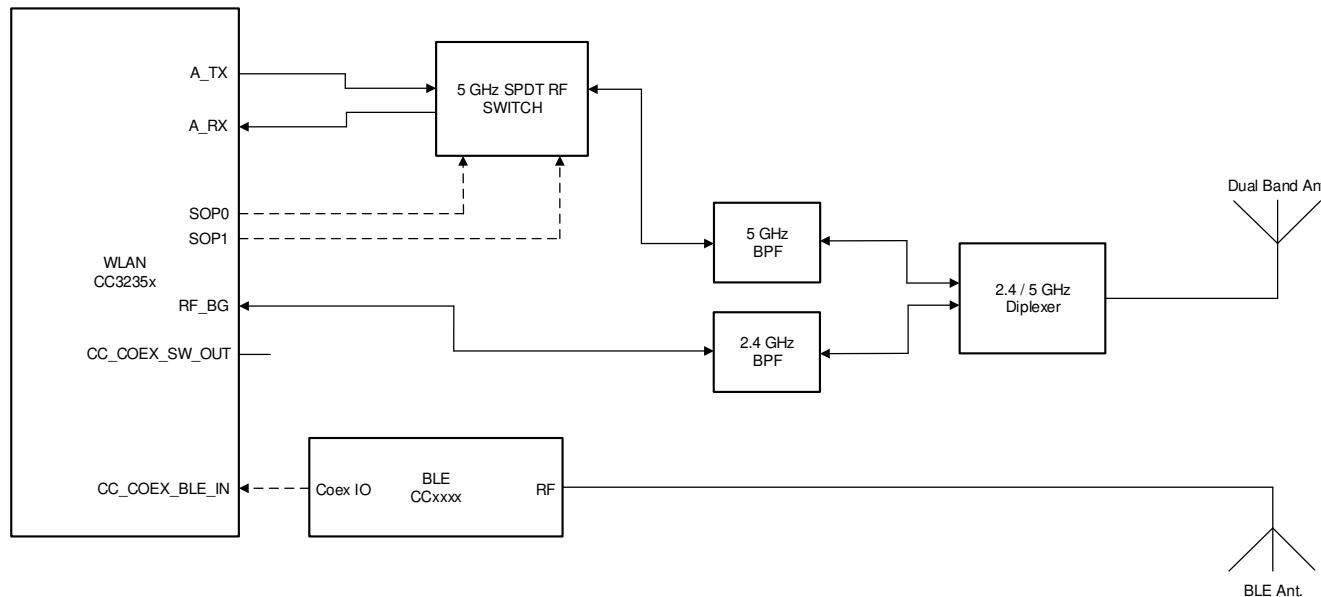

図 9-4. Dual Antenna Coexistence Solution with 5GHz Wi-Fi
- 5GHz Wi-Fi band (see 図 9-4)
図 9-4 shows the dual antenna implementation of a complete Bluetooth® low energy and WLAN coexistence network with the WLAN operating on either a 2.4- or a 5GHz band. In this case, the 2.4GHz and 5GHz Wi-Fi share an antenna and the BLE has its own dedicated antenna. The SOP lines control the 5GHz switch. Note that in this implementation, no Coex switch is required and only a single GPIO from the BLE device to the CC3235x device is required.